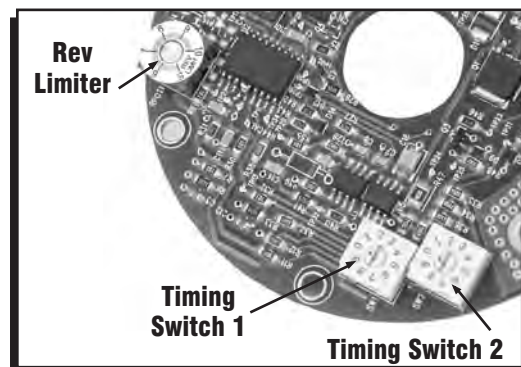

Figure 1 Rotary Dial Adjustments.
This distributor is equipped with an adjustable rev limiter. It is adjustable from 5,000 - 10,000 rpm by a rotary dial under the cap and rotor (Figure 1). The rpm will not exceed your selected amount to protect the engine from over-rev damage.
**Electronic Advance Curve Operation:** The Electronic Advance Curve is managed by a microprocessor built into the ignition module. You can program an electronic timing advance curve by adjusting two rotary switches under the distributor cap (Figure 1). A magnetic pickup is used as a trigger device that tells the ignition module when to fire the coil. The pickup is triggered by a reluctor mounted to the distributor shaft. This means that you have to set the distributor at the highest, or Total, amount of advance that you want to achieve (including vacuum advance) and compensate with one of the selectable ignition curves (shown on page 4). Following are important definitions that will be used to set up your timing.